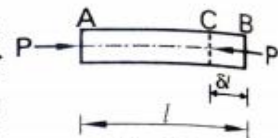

Fig. 1.5
When a body or bar is subjected to two equal and opposite pushes i.e., compressive load or force, it causes shortening or decrease in length of bar in the direction of application of load. The ratio of decrease in length to the original length is known as compressive strain. i.e., Compressive strain is defined as shortening per unit length. Consider a bar subjected to compressive load or force (P) as shown in Fig. 1.5.